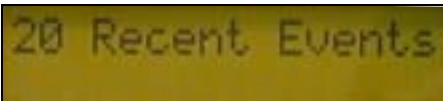

Figure 4-20.
View Alarm History will display the twenty (20) most recent events. First the event number is displayed followed by the event. Each event is date and time stamped with the most recent event displayed first. Figure 4-20 through 4-24 are examples of a the Alarm history.